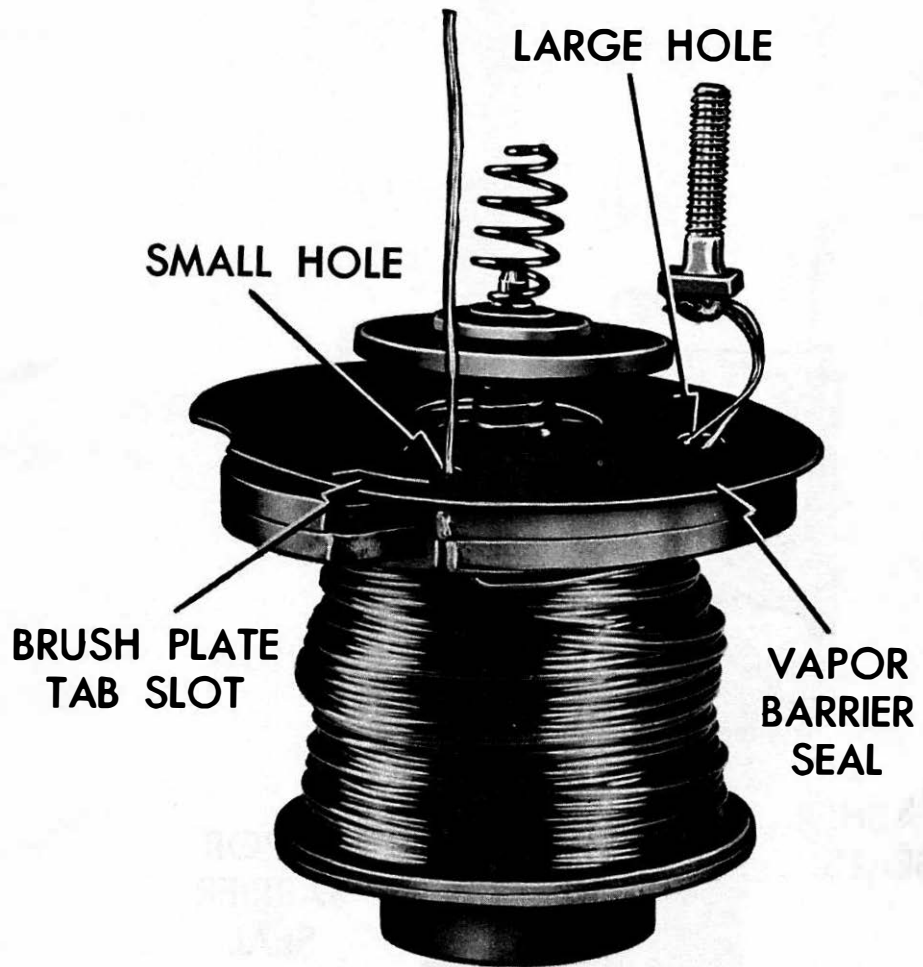

FIG. 1
8. Straighten the solenoid lead wires and install the vapor blocking seal over the wires by inserting the double wires into the larger hole and the single wire in the smaller hole. Refer to Figure 1. Place the ends of the double solenoid lead wires into the new terminal stud. Crimp in position and solder with resin core solder.